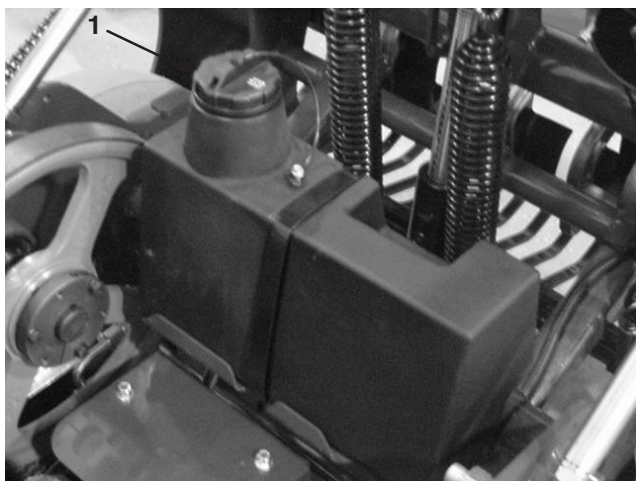

Figure 14
3. Clean area around filler neck and cap of hydraulic tank (Fig. 14). Remove cap from filler neck.